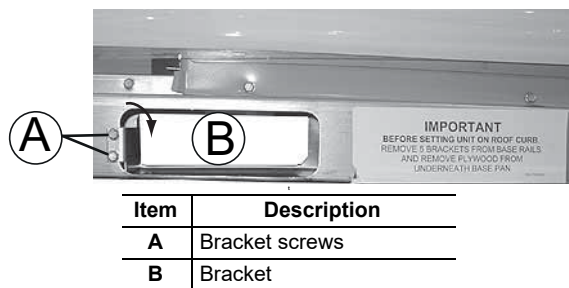

Figure 1: Unit shipping bracket
1. Remove the two screws that hold the brackets in the front, rear, and compressor side fork-lift slots. See Figure 1